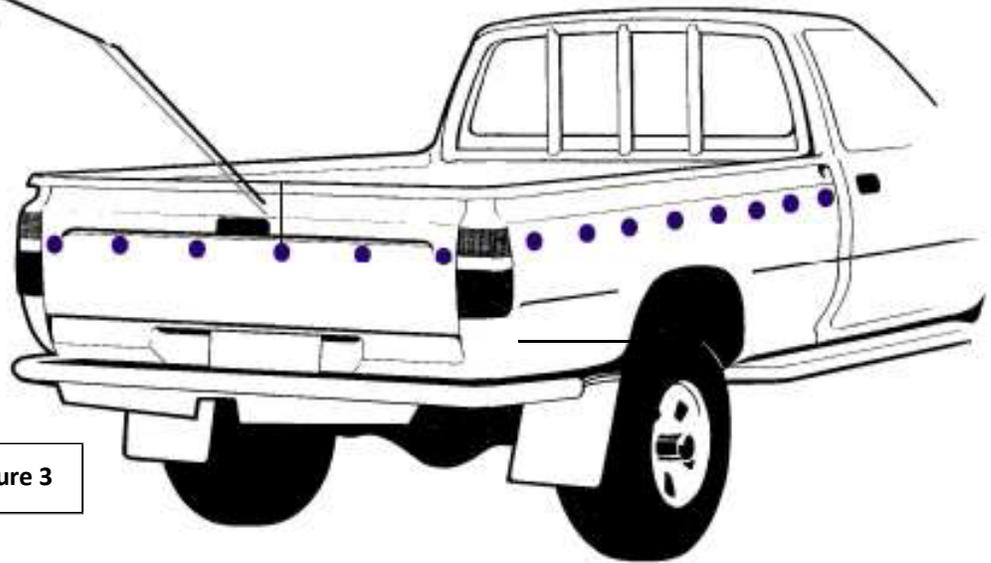

Figure 3
10. For the side hooks measure 165mm down from the inside edge and drill and rivet round body hooks alternating from side to side. **Refer to Figure 3.**